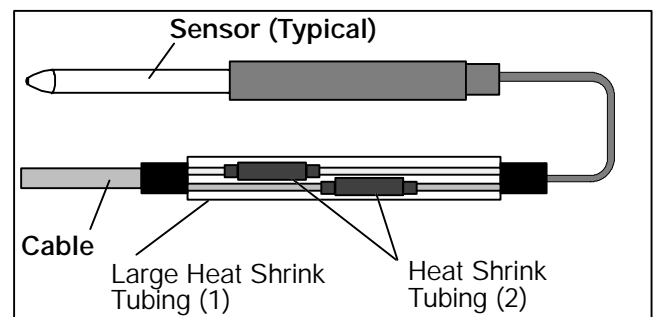

Figure 6-22 Sensor and Cable Splice
- Slide a large piece of heat shrink tubing over the cable, and place the two small pieces of heat shrink tubing, one over each wire, before adding crimp fittings as shown in Figure 6-22.
- j. Slide heat shrink tubing over splice so that ends of tubing cover both ends of crimp as shown in Figure 6-22.